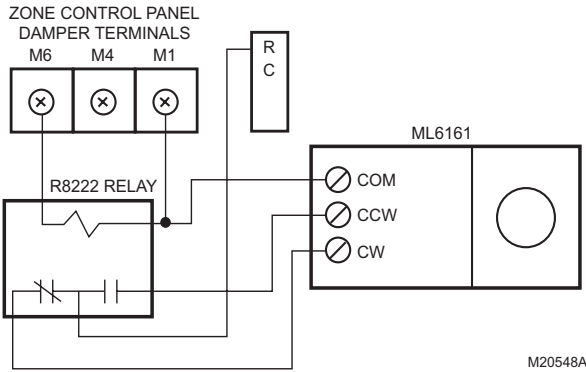

Fig. 12. MARD or ML6161 Damper Motor Actuator using R8222 Relay wiring.
6. Connect a 40 VA, 24 volt transformer to R (hot) and C (common). This must be a dedicated transformer and each TAZ-4 board also requires a transformer. See Fig. 12.
The ML6161 Motor causes the damper LED to illuminate green constantly. Wire a relay as shown in Fig. 12 to restore damper position indication.